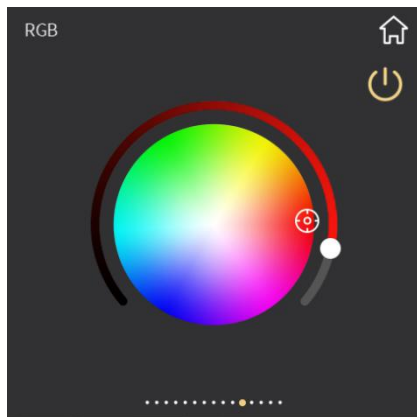

Fig.2.7.1
② **This area displays the page description identification of RGB dimming function page, user can define the description through ETS.**
- ③ **Return to the home page by touching this icon ;**
- ④ **This ring slider is used to adjust the color of RGB lamp;**
- ⑤ **This icon is the color palette;**
When RGB dimming function is configured as RGB, function page interface as shown in Fig.2.7.1, sliding ring slider④ to adjust the color of RGB lamp, when ring slider④ is slid to the left bottom, RGB lamp is completely OFF, at this time, the button① become gray, and no reaction when operate the color palette⑤.